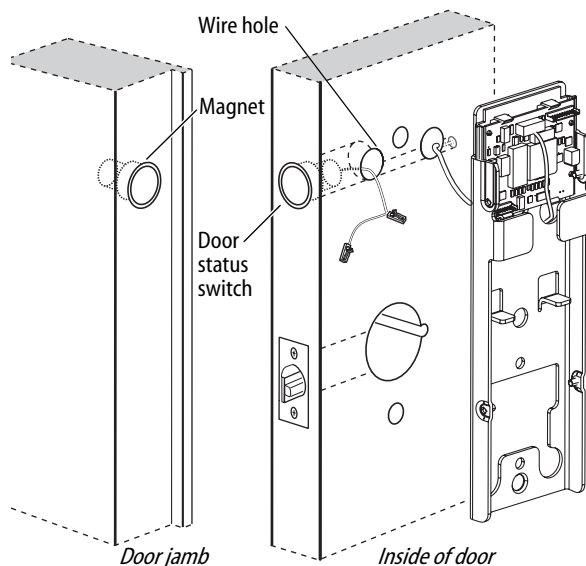

Figure 8 Installing the door status switch and magnet
- 4 Insert the door status switch assembly into the door status switch hole in the edge of the door, feeding the connectors out the wire hole to the inside of the door, as shown in Figure 8.